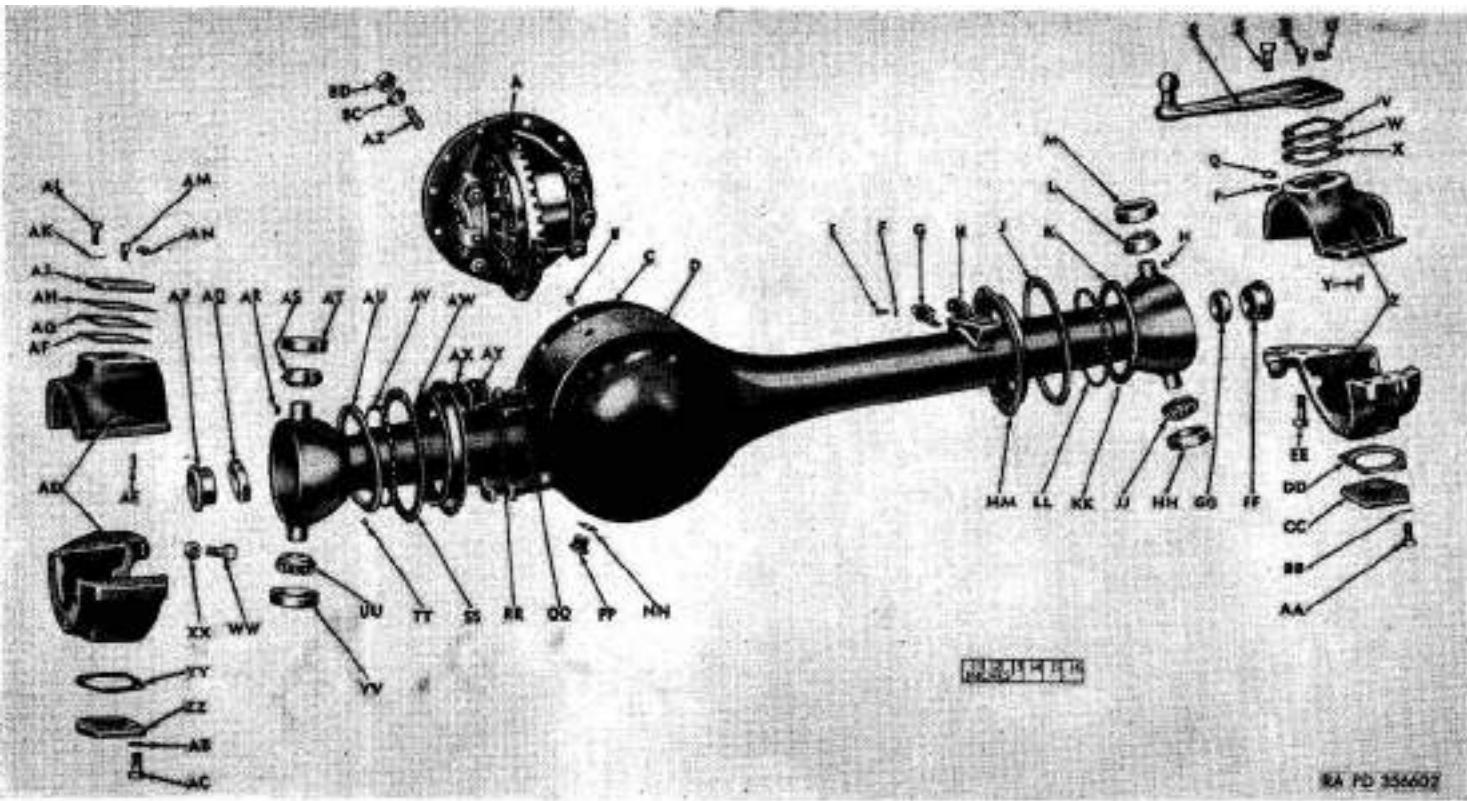

Figure 62. Front axle—exploded view.
b. Inspect Front Axle Housing Assembly (fig. 62) .
- (1) Inspect front axle housing assembly (D) for damage or broken welds. Inspect axle housing pivot pin-to-housing welds for breakage. If any of these conditions exist, replace axle housing.
- (2) Inspect outer spherical ends of front axle housing for corrosion or scored spots. If either condition exists, clean or replace housing as required.
- (3) Inspect drive pinion carrier studs and front axle housing mounting flange for damage or wear. Replace damaged studs. The axle housing must be replaced if mounting flange is damaged.
- (4) Inspect flange upper and lower bearing cones (L, JJ, UU, and AS) for scores, wear, pitting, or damaged roller cages. If any of these conditions exist, replace bearings (pars. 77j and 79c).